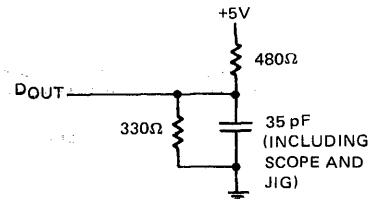

Figure 2
② Transition is measured $\pm 500 \text{ MV}$ from steady state with load of Figure 2. This parameter is sampled and not 100% tested.